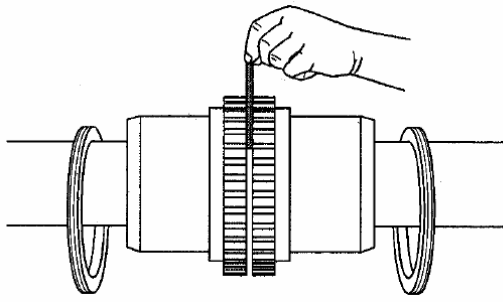

FIGURE 7C – USING SPACER BAR
8. Use a spacer bar equal in thickness to the gap specified in Figure 7C. Insert bar, as shown below, to same depth at 90° intervals and measure clearance between bar and hub face with feeler gauges. The difference in minimum and maximum measurements must not exceed the angular installation limits shown in Figure 7H.